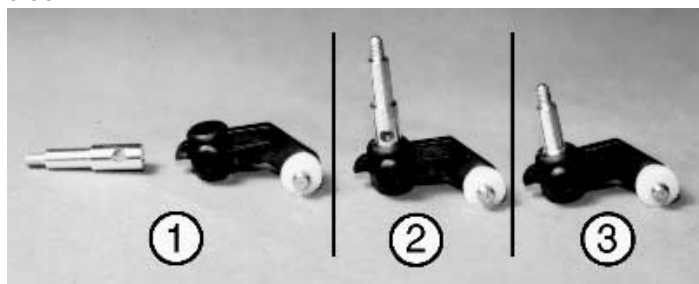

Fig. 5
□ **Fig. 5** You will find the two #6220 aluminum inline front axles in bag #7-1. Your axles will look like step 1. We are going to install one axle in each #6221 nylon steering block (step 2), making sure that the hole in each axle lines up with the hole in the steering block. The parts should push together with your fingers, if they do not, then you may fit a 1/4" nut driver over the threaded end of the axle, and then push the axle into the steering block (step 3). **WARNING! The threads on the end of the axle are aluminum and can easily be damaged by the nut driver.** When installed, the axle will be fairly tight in the steering block so try to align the two holes as you are assembling the parts. **WARNING!! Do not use pliers on the bearing surface of the axle. This can damage the axle surface so that the bearings will no longer fit. It is safer to push the axle out of the steering block and start the alignment process over if it will not turn.** Repeat the process for the second axle and steering block.